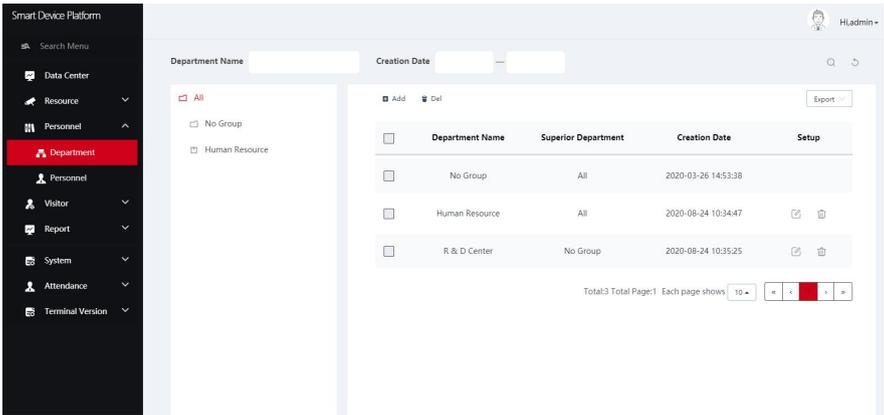

Figure 5-33
Step 1: In the smart device platform interface,click "Personnel→Department" to enter the organization management interface, as shown in Figure 5-33 below.